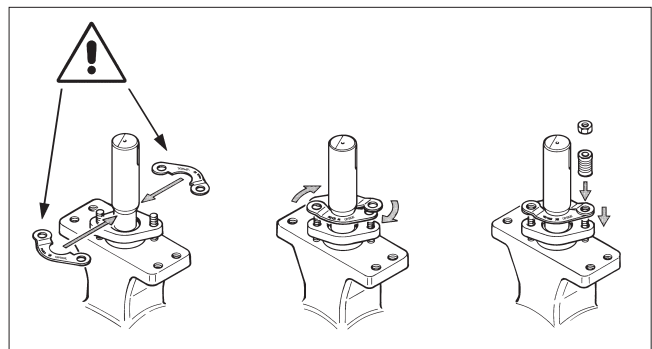

Fig. 10 Mounting the retaining plate
- Unfasten the nuts (25) and remove the disc spring (TA-Luft) sets (44), the retaining plates (42) and the gland (9).
- Remove old packing rings (20). Do not damage the surfaces of the packing ring counterbore and shaft. It is not necessary to change anti-extrusion ring (22).
- Mount the retaining plates with the text UPSIDE on top (see Fig. 10).